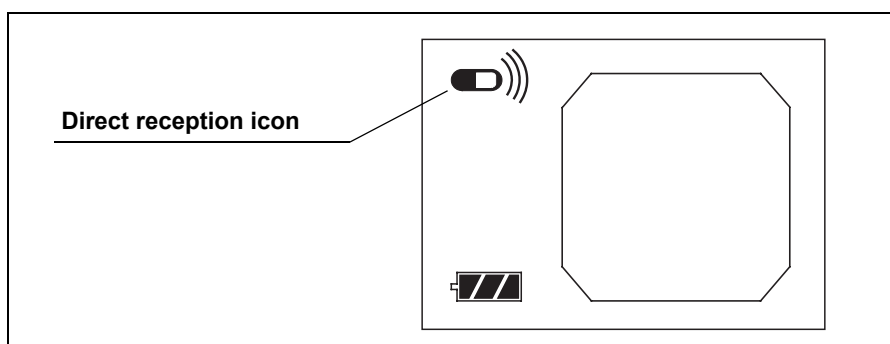

Figure 5.42
- When the real time viewer is receiving images directly from the capsule endoscope, the direct reception icon is displayed (see Figure 5.42).